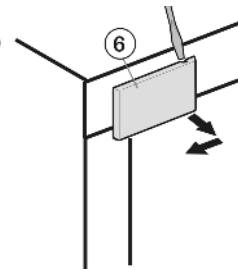

Fig. 16
- ▶ Loosen cover that is on the hinge side Fig. 16 (6) using a screwdriver and remove by pulling outwards.